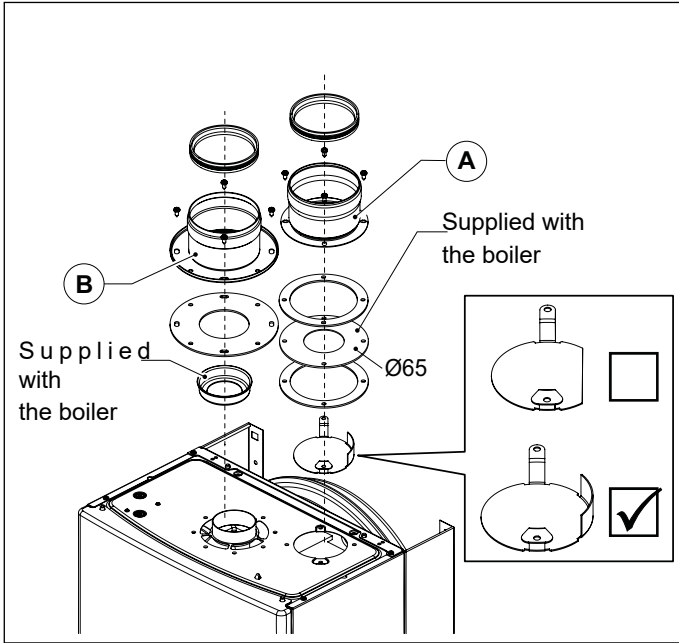

Fig. 8 OSDOPPIA13
- Install the specific air deflector (see Fig. 8 0SDOPPIA13).